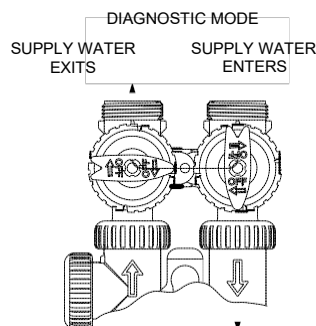

Figure 3
3. Diagnostic Position: The inlet handle points toward the control valve and the outlet handle points to the center of bypass valve. Untreated supply water is allowed to flow to the system and to the building, while not allowing water to exit from the system to the building (See Figure 3).